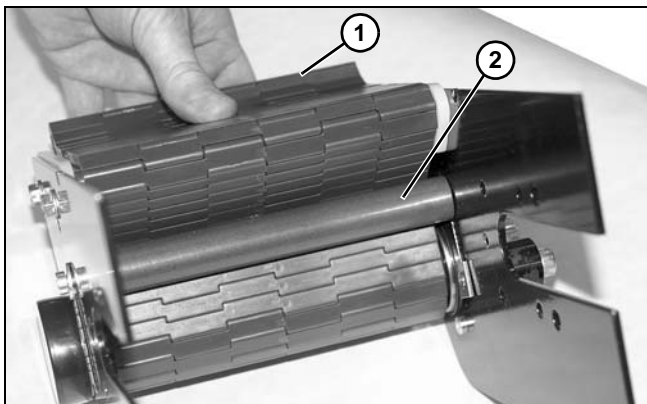

Figure 124
15. Remove belt (**Figure 124, item 1**) from around tensioning rod (**Figure 124, item 2**).